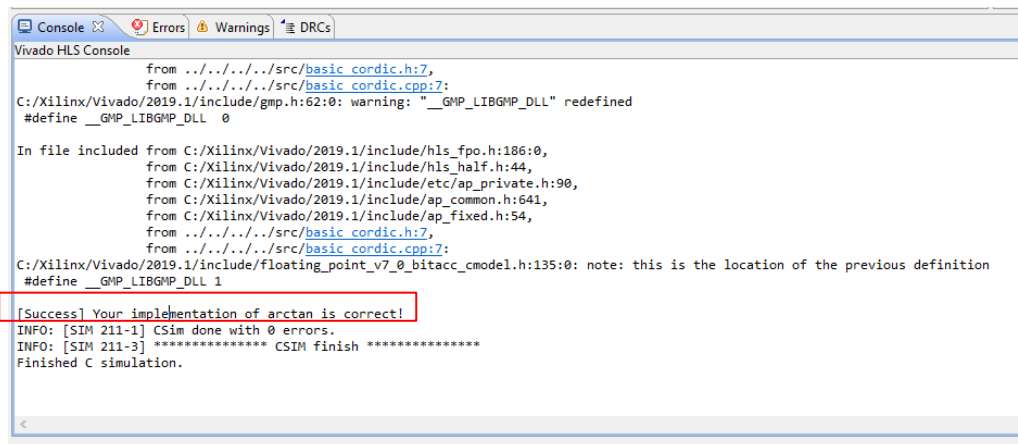

Figure 7: C++ verification done.
- b) Wait until the simulation is done. If your implementations are all correct, you should see “[Success] Your implementation of xxx is correct!” in the console. Please refer to Figure 7.